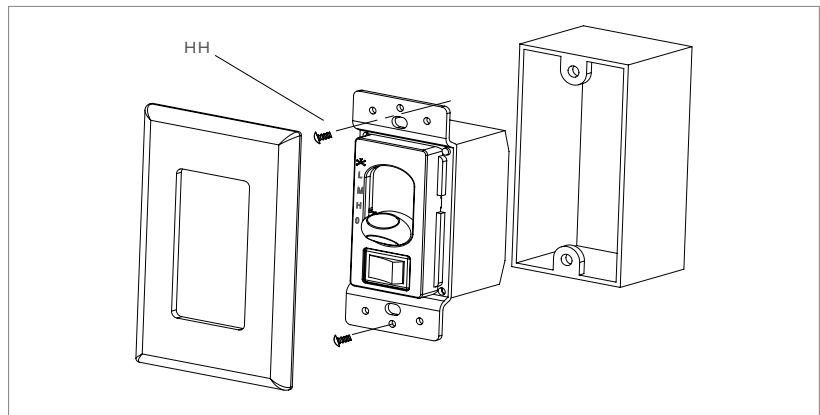

FIGURE 2
D) Secure the 3WC wall-mounted control to the electrical wall box with two screws provided. (Figure 2)